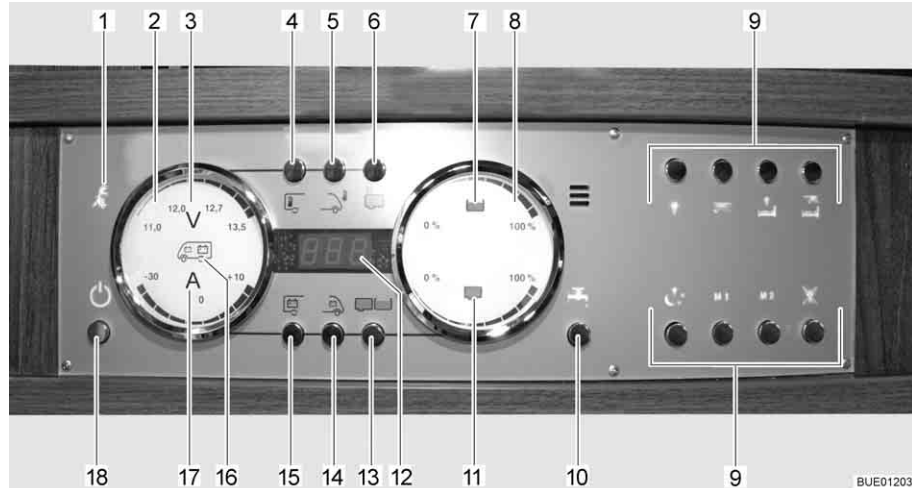

Fig. 153 Panel LT 510
The 230 V indicator lamp (Fig. 153,1) illuminates whenever line voltage is available at the transformer/rectifier input.
The 12 V main switch (Fig. 153,18) switches the panel and the 12 V power supply of the living area on and off.
- Briefly press the 12 V power supply button (Fig. 153,18). The 12 V living area power supply is switched on. The "12 V" indicator lights up.
- ▷ If, after switching on, the "11.0" LED of the volt indicator and the "V" volt symbol (Fig. 153,3) in the batteries gauge (Fig. 153,2) flash, the voltage of the living area battery is too low. Charge battery.
- ▷ If, after switching on, the "12 V" indicator and the "V" volt symbol (Fig. 153,3) flash three times, battery separation is activated. Deactivate battery separation.
- Briefly press the 12 V power supply button (Fig. 153,18). The 12 V living area power supply is switched off. The "12 V power supply" indicator goes out.
- Press button for living area battery (Fig. 153,15) and hold it down for approx. 10 seconds. The "V" volt symbol (Fig. 153,3) and the "12 V" indicator flash three times. The living area battery is disconnected from the 12 V power supply.
- Press the 12 V power supply button (Fig. 153,18) and hold it down for approx. 5 seconds. The "V" volt symbol (Fig. 153,3) and the "12 V" indicator flash three times. The living area battery is connected to the 12 V power supply. The indicator lights up after approx. 5 seconds.
- Press button for living area battery (Fig. 153,15). The "V" volt symbol (Fig. 153,3) lights up. The "A" amp symbol (Fig. 153,17) lights up as either white or red depending on whether it is charging or discharging. The battery voltage and electricity of the living area battery are displayed via the LEDs in the gauge.
- Press button for starter battery (Fig. 153,14). The "V" volt symbol (Fig. 153,3) lights up. The battery voltage of the starter battery is displayed using the LEDs in the gauge.
- Press tanks button (Fig. 153,13). The water tank (Fig. 153,7) and waste water tank (Fig. 153,11) symbols light up. The fill levels of the water tank (upper scale) and of the waste water tank (lower scale) are indicated using the LEDs in the gauge.
Tank alarm The water tank symbol (Fig. 153,7) or waste water tank symbol (Fig. 153,11) flashes when the water tank is empty or the waste water tank is full.
The internal and external temperatures can be indicated using the digital display (Fig. 153,12).
Displays: ■ Press the button for the internal temperature (Fig. 153,4). The internal temperature is displayed.
■ Press external temperature button (Fig. 153,5). The external temperature is displayed.